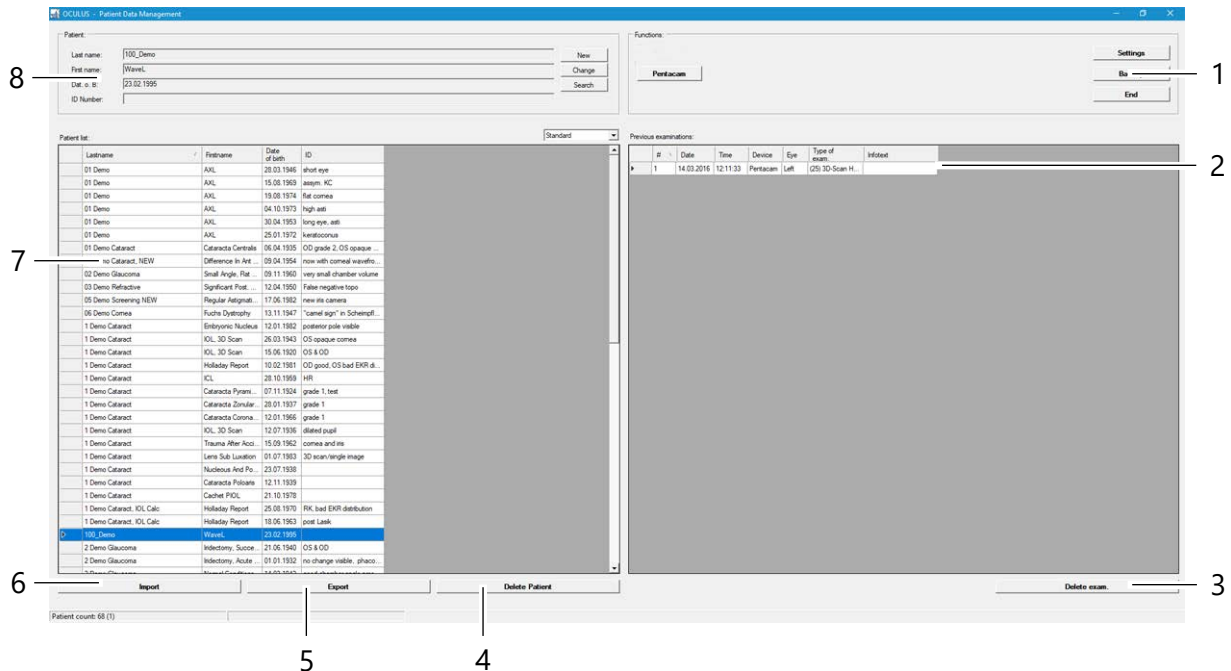

Fig. 8-1: Patient Data Management user interface
- After selecting a patient: Press the [Pentacam] button to start the Pentacam®-Program → fig. 8-1 (page 35).